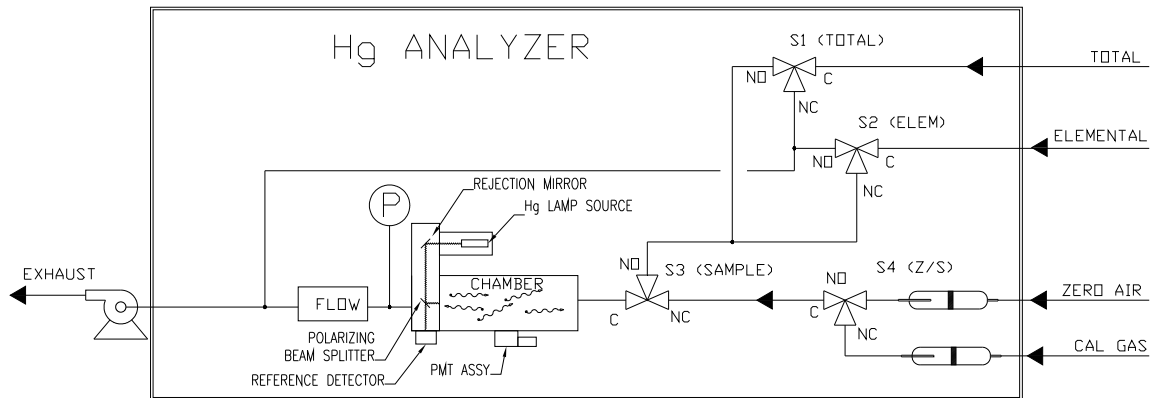

Figure 1–1. Model 80*i* Flow Diagram
The sample from the Hg probe (Model 83i) is introduced to the rear panel of the instrument as either Total Hg or Elemental Hg from the appropriate probe umbilical connection (see **Figure 1–1**). When the Model 80i is sampling Total Hg, the total sample is routed into the fluorescence chamber via Solenoids S1 (NO state) and S3 (NO state). During this time, the Elemental Hg sample bypasses the chamber via Solenoid S2 (NO state).
Table 1–1 shows the Model 81*i* solenoid valve status for the different calibrator modes. Use this table along with **Figure 1–2** when reading the principle of operation description that follows. Note that a valve status shown as ON describes a valve that is energized, or in the Normally Closed (NC) state. A valve status shown as OFF describes a valve that is de-energized, or in the Normally Open (NO) state.